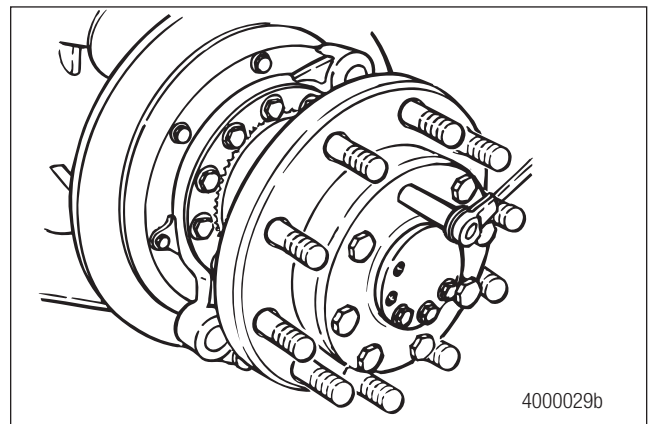

Figure 4.6
3. Remove the capscrews and washers that connect the drive flange to the wheel hub. Figure 4.6.